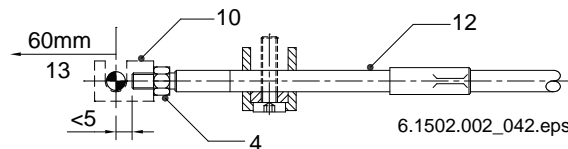

Figure 2 Fitting the manual throttle set to the accelerator pedal
7. Next screw fork {10} onto the end of the throttle cable. Make sure that the cable does not touch the shaft of the guide rollers, as in that case the accelerator pedal would not pivot very well; see Figure 2 {2}.